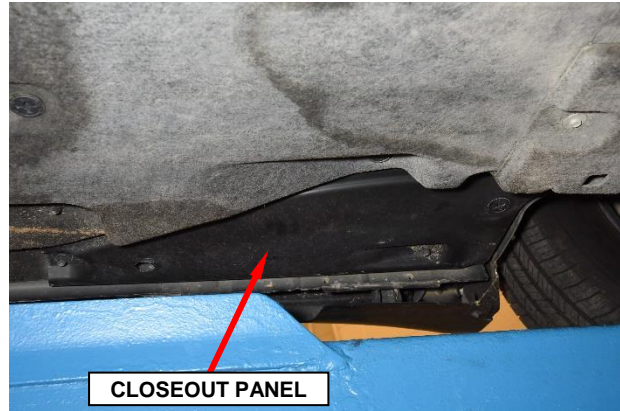

Figure 19 – Belly Pan Closeout Panel
2. Remove the fasteners then remove the left side closeout panel overlapping the charger belly pan (Figure 19).
30. Install the left side closeout panel overlapping the charger belly pan then install the closeout fasteners (Figure 19).